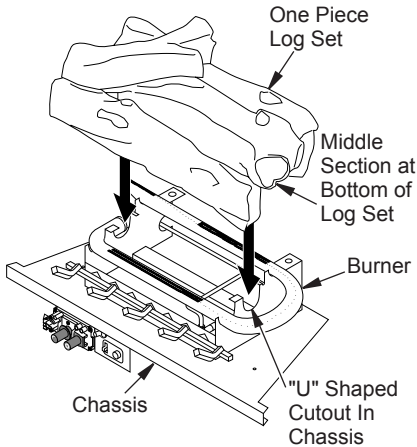
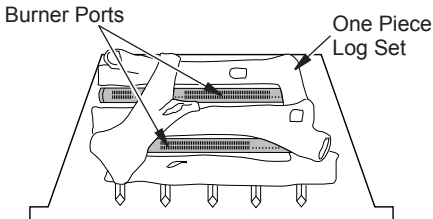

Figure 31 - Installing One Piece Log Set
Figure 32 - Installing One Piece Log Set, Top View
1. Place one-piece log set on grate to fit as illustrated in Figure 31. Make sure middle section at bottom of log set is seated into "U"-shaped cutout in center of chassis (see Figure 31). **IMPORTANT:** Make sure log does not cover any burner ports (see Figure 32).